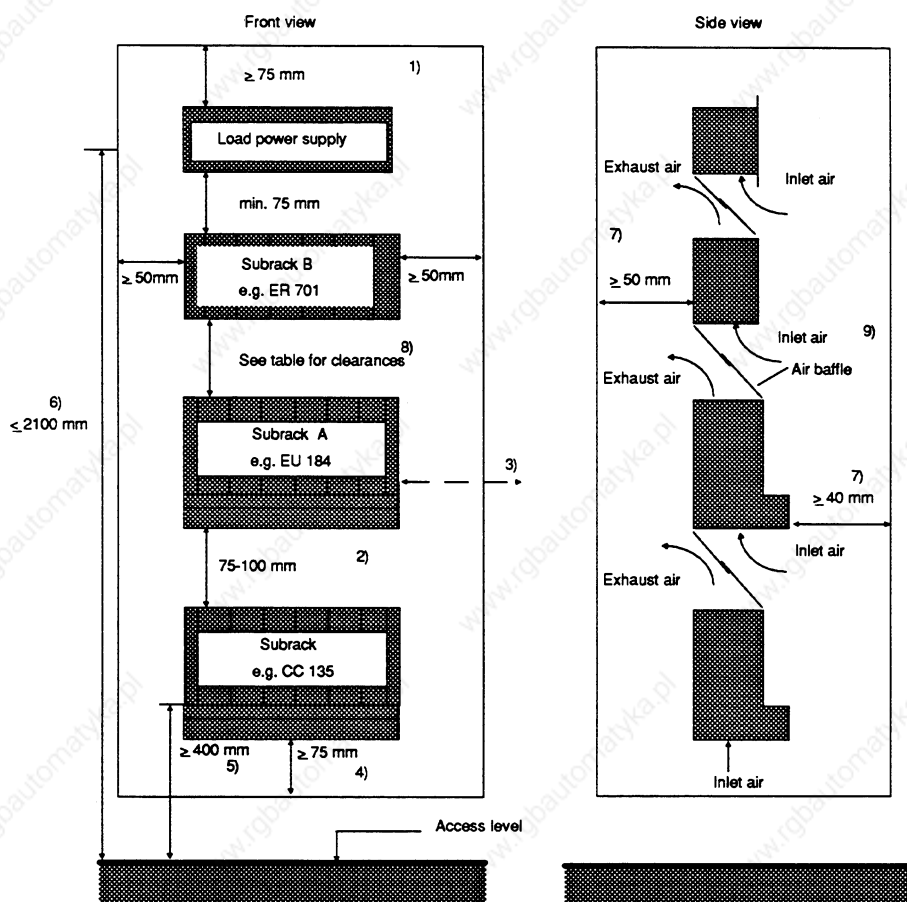

Fig. 2 Installation dimensions for SIMATIC controllers in cabinet
- As a result of the required spacing between devices and the maximum permissible installation height for control elements, a maximum of three U-type devices can be arranged one above the other (see Fig. 2).
¹⁾ See Fig. 2, Installation dimensions for SIMATIC controllers in cabinet
Fig. 3 shows the permissible ambient temperature of a cabinet with dimensions of 600 mm x 600 mm x 2200 mm depending on the power loss. The values indicated only apply to the arrangement of units in the cabinet as shown in Fig. 2. You can obtain more information from Catalogs NV21 and ET1.